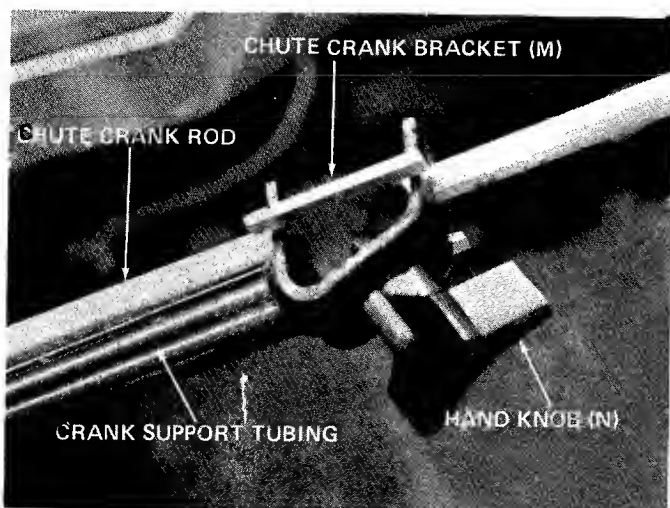

FIGURE 25
12. Place the chute crank bracket (M) in position on the crank support tubing. Slide the chute crank through the top of crank support tubing. Start hand knob (N) in crank support tubing. See figure 25.